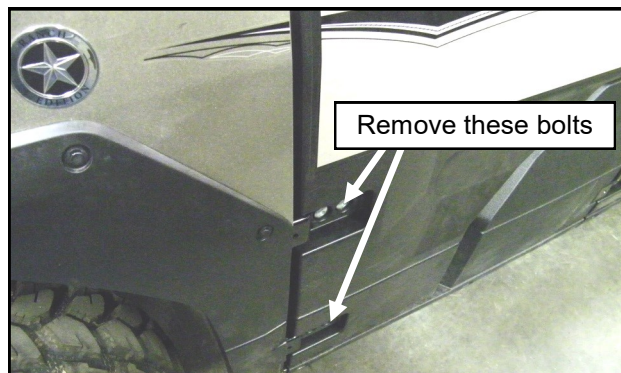

Fig. 1.1 Factory half doors (4)
**1.1** Per figure 1.1, remove front and rear half doors.